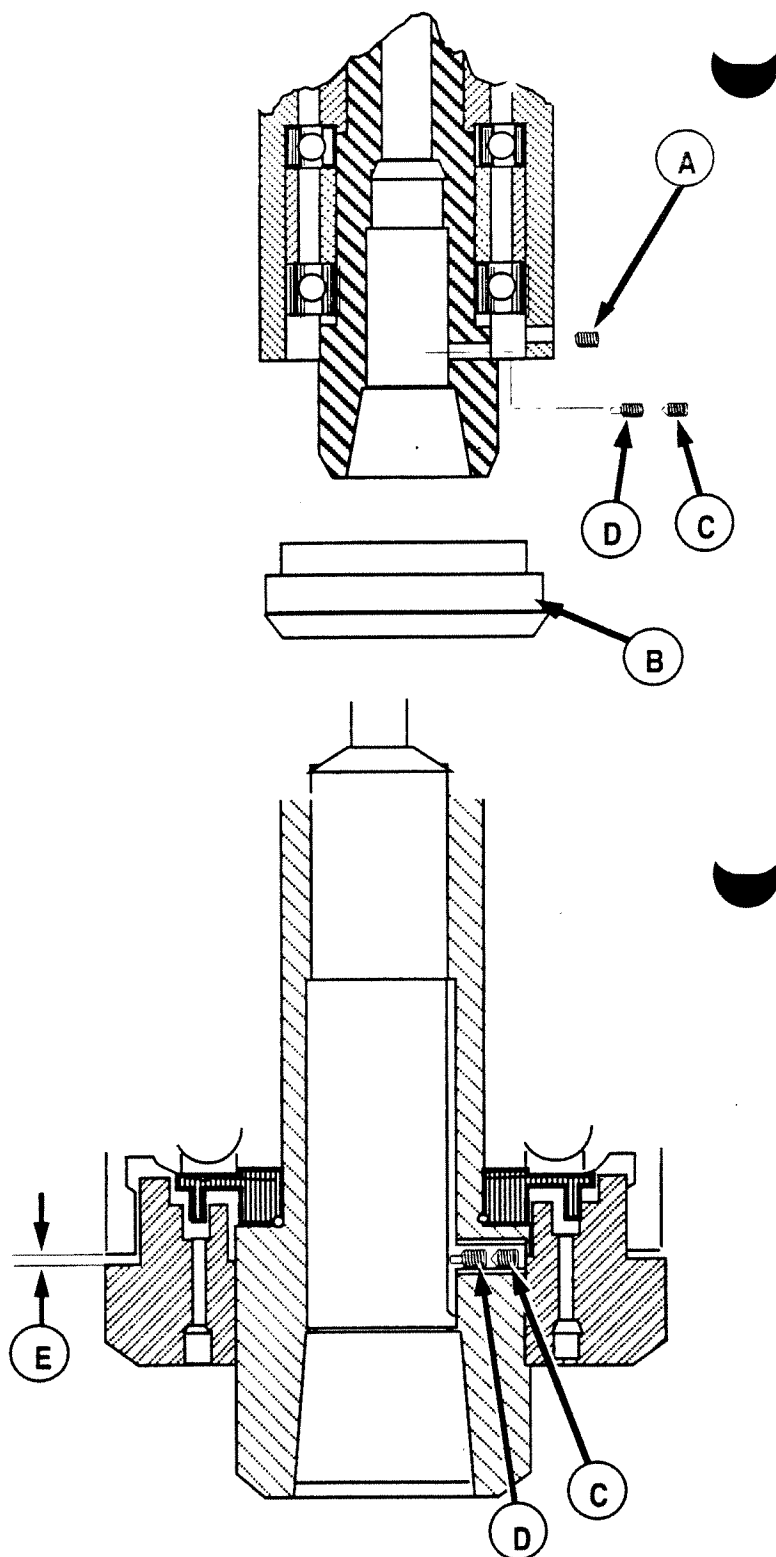

Figure 9-8. Collet Aligning Screw Replacement
9.8 COLLET ALIGNING SCREW REPLACEMENT (Figure 9-8)